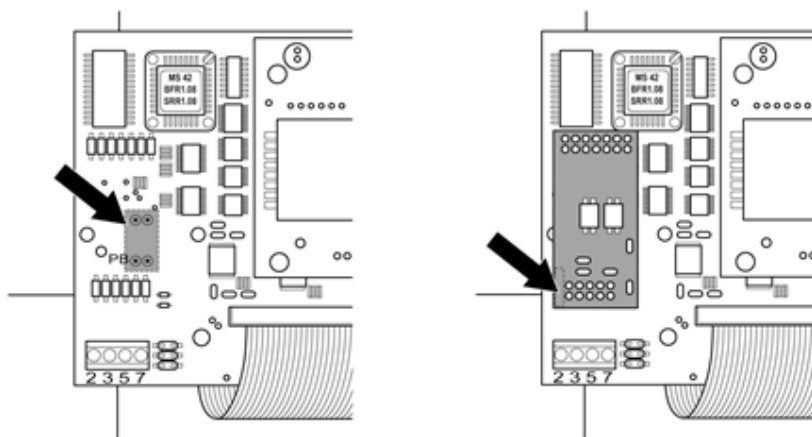

Figure 3: Control board before and after installation of the piggyback
2. The Piggy Back has to be installed on the inverter's circuit board aligned to the left side under the pin contract strip (Figure 3, left).
The print "unten [down]" on the board has to be visible on the bottom left-hand side (Figure 3, right).